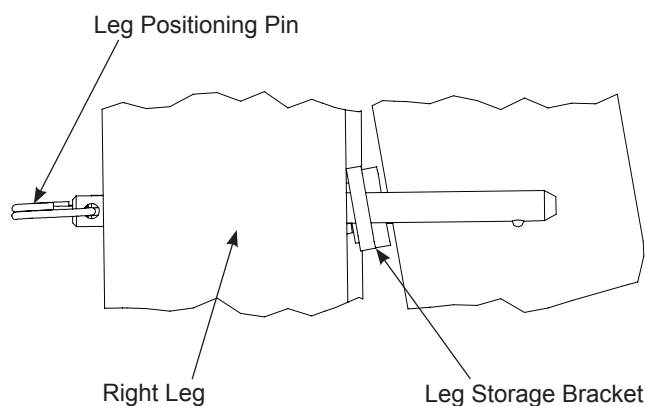

Figure 16
3. Separately lift each of the legs and rotate them until they are vertical. Insert the leg positioning pin into the leg and then through the leg storage bracket as shown in Figure 16. Ensure that the pin has secured the leg onto the leg storage bracket and that the leg positioning pin is fully inserted into the leg.